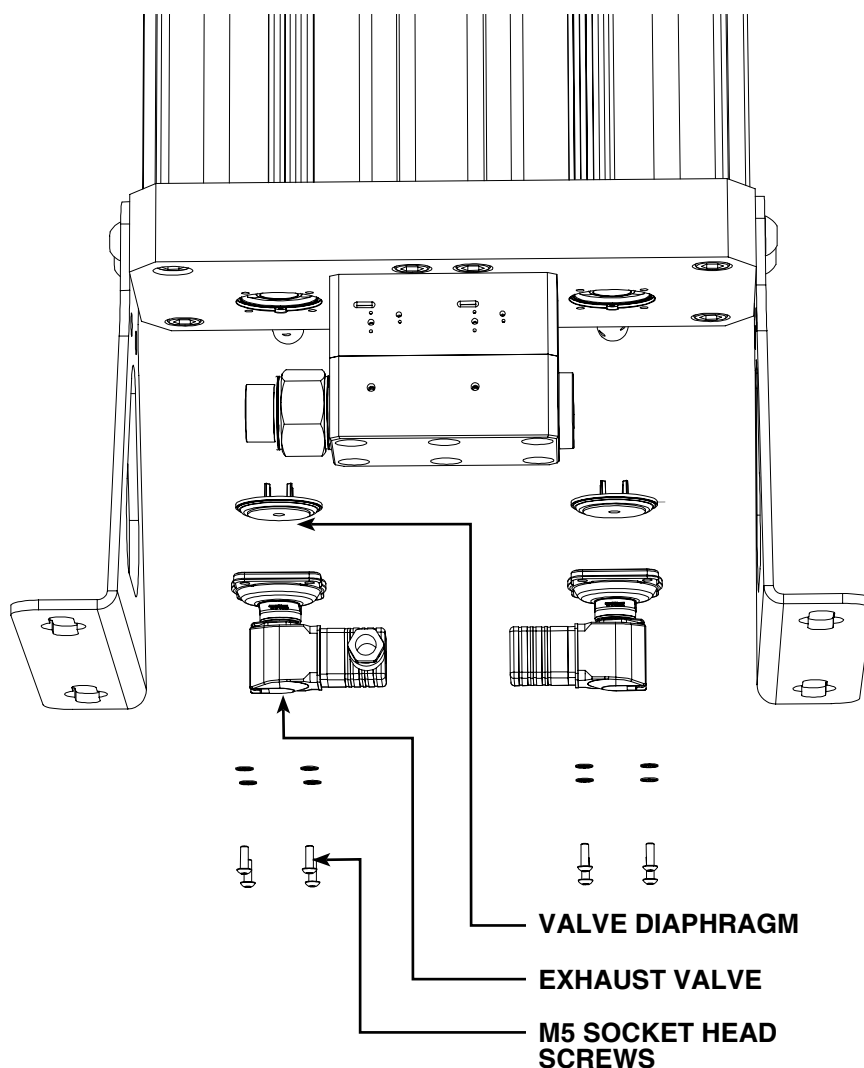

Figure 2.
3. Remove the 8x M5 socket head screws and the 8x spring washers and remove the exhaust valve bodies and diaphragms from the inlet (bottom) manifold. (See Figure 2)
5. Replace the 8x M5 socket head screws and spring washers and tighten at a torque setting of 6Nm. Reattach the 2x solenoid valves and 2x plugs. (See Figure 2)